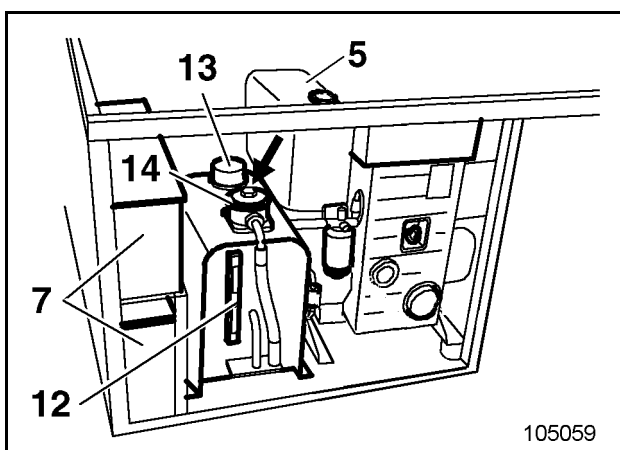

Fig. 3-167:
- Fill up fuel tank through filler (5, Fig. 3-167:) after each deployment.
- Check batteries (7) and cable connections at regular intervals.
- Prior to each deployment, check the hydraulic oil level at the inspection glass (12, Fig. 3-167:); top up if necessary.
- Check contamination of hydraulic oil filter regularly at contamination indicator (arrow, Fig. 3-167:).
- Regularly, but at least once a year replace the hydraulic oil filter (14) and the breather filter (13).